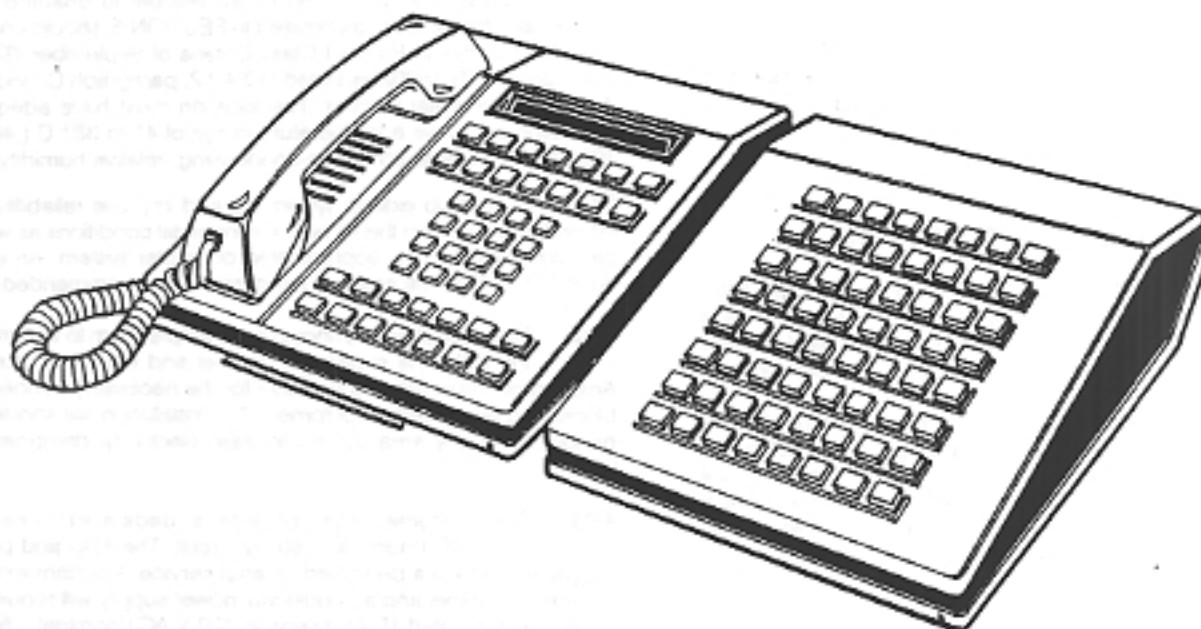

Figure 1-7 ATTENDANT DISPLAY MULTIBUTTON KEY TELEPHONE ( ULTRACOM ), SHOWN WITH DSS CONSOLE
**2.12** The Attendant Display Multibutton Key Telephone is the same as the Display Multibutton Key Telephone and has several unique programmed features including Automatic Hold, Handsfree Transfer, Barge-In and Voice Transfer. The Attendant Display Multibutton Key Telephones are shown with the DSS console in Figures 1-7 and 1-8.
**2.13** The DSS console provides the attendant with single key access to the extensions and serves as a Busy Lamp Field for the system. Each TCX-128 system can support up to six DSS consoles. Each DSS console requires one extension position. The DSS console is shown with the Attendant Display Multibutton Key Telephones in Figures 1-7 and 1-8.